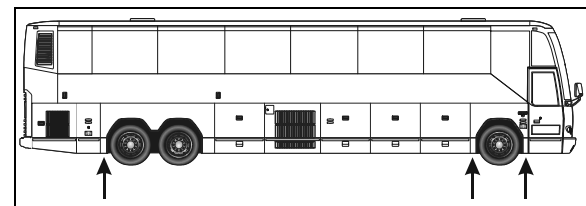

FIGURE 79: JACKING POINTS ON STRUCTURE
The vehicle can be lifted by applying pressure under body jacking points or front and drive axle jacking points (from fig. 79 up to 86). When it is necessary to lift the vehicle, care should be taken to ensure that the pressure is applied only on the specified areas. Equipment for lifting the front of the vehicle must have a combined lifting capacity of at least 20,000 lb. (9 100 kg).
**Warning:** When it is necessary to raise the vehicle, care should be taken to ensure that pressure is applied only at the points indicated in figures 79 up to 86.